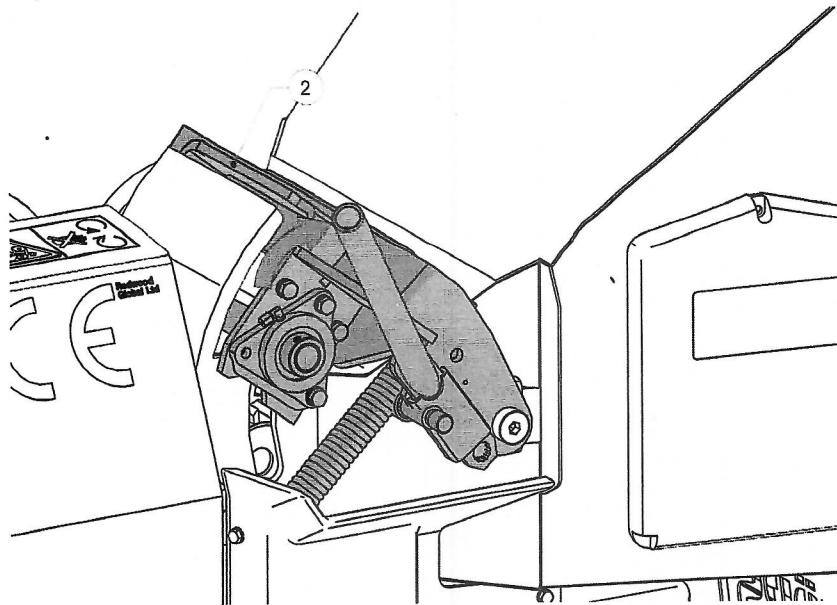

Figure 43 - Raising the top feed roller housing
12. Lift the top feed roller (2, Figure 43) to the fully open position.